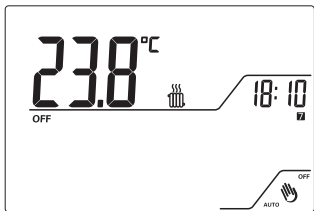

Fig.21
5.4.1 Press for 4 seconds  to switch-off programmable thermostat. Now the FUNCTION OFF is activated. It can be activated with and without Frost Protection. It is important to avoid damage caused by low temperatures. Fig.21 shows that the system is OFF with Frost Protection function active.